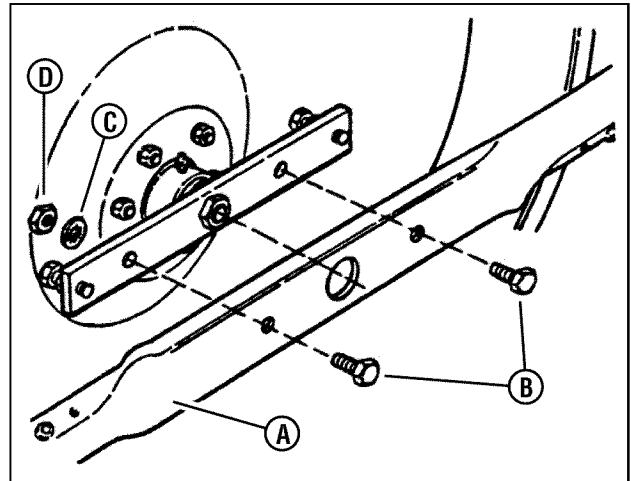

Figure 43: Removing the mower blade
4. Remove the bolts (**B, Figure 43**), washers (**C**) and nuts (**D**) securing the mower blade (**A**) to the spindle.